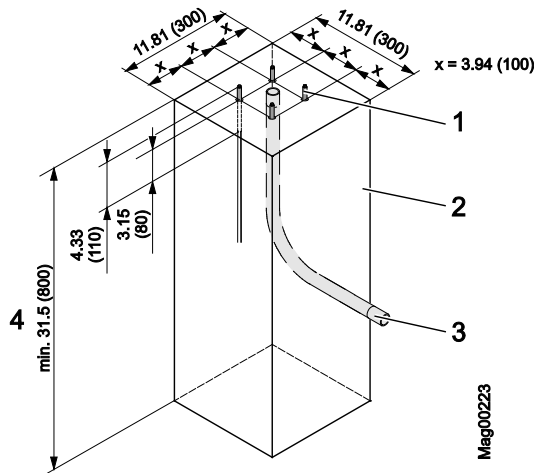

Fig. 18: Foundation plan for light barrier post
→ See page 50, Fig. 13 and page 57, Fig. 18.
1. Dig foundation hole pursuant to Fig. 13 and Fig. 18.
2. Place empty conduit pursuant to Fig. 18 in the foundation hole.
4. Fill concrete foundation pursuant to Fig. 18.